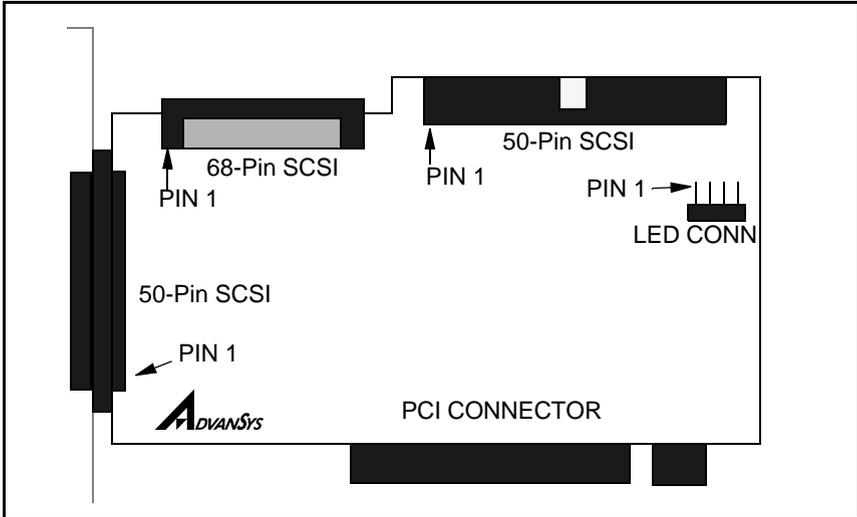

Figure 3-1: ABP-940UW Host Adapter Card Layout
You do not need to understand highly technical computer jargon to install your high performance Host Adapter Card. This chapter will guide you through the process of installing the Host Adapter Card and I/O devices. The connectors for the ABP-940UW host adapter card are shown in Figure 3-1 and described in Table 3-1.
3. Connect any external SCSI peripheral devices to the host adapter card external connector (see Figure 3-1 for connector location).
4. Connect any internal Ultra Wide SCSI peripheral devices to the Host Adapter Card internal 68-pin high density connector (see Figure 3-1 for connector location).